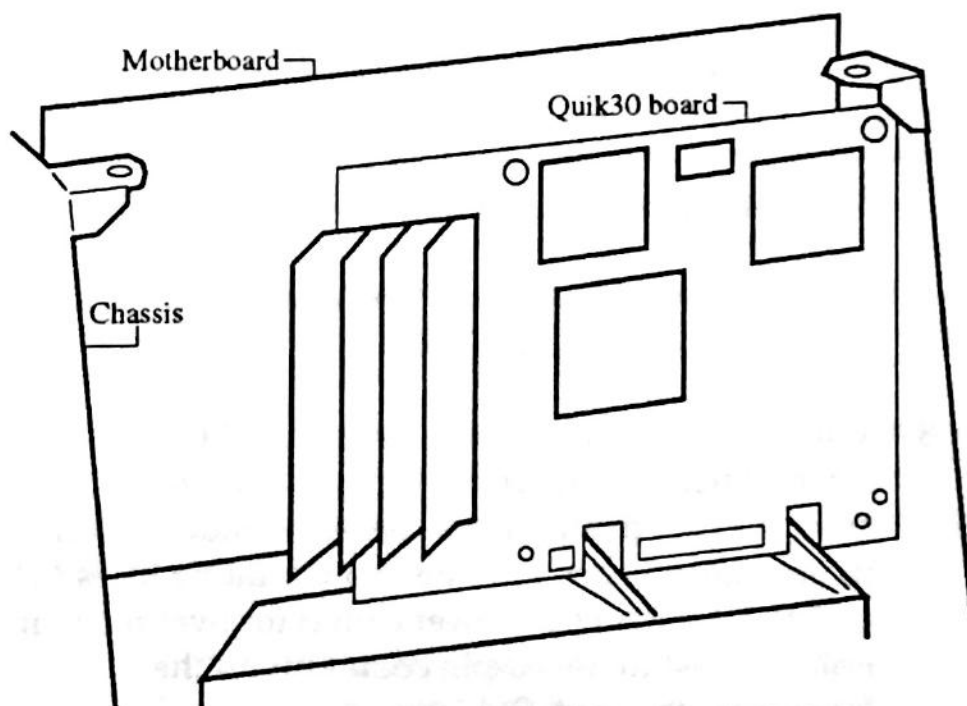

Figure 5 - Final placement of *Quik30*
1. Insert the edges of the motherboard into the metal guides on the chassis. The motherboard and *Quik30* should be in the orientation shown in Fig.5.